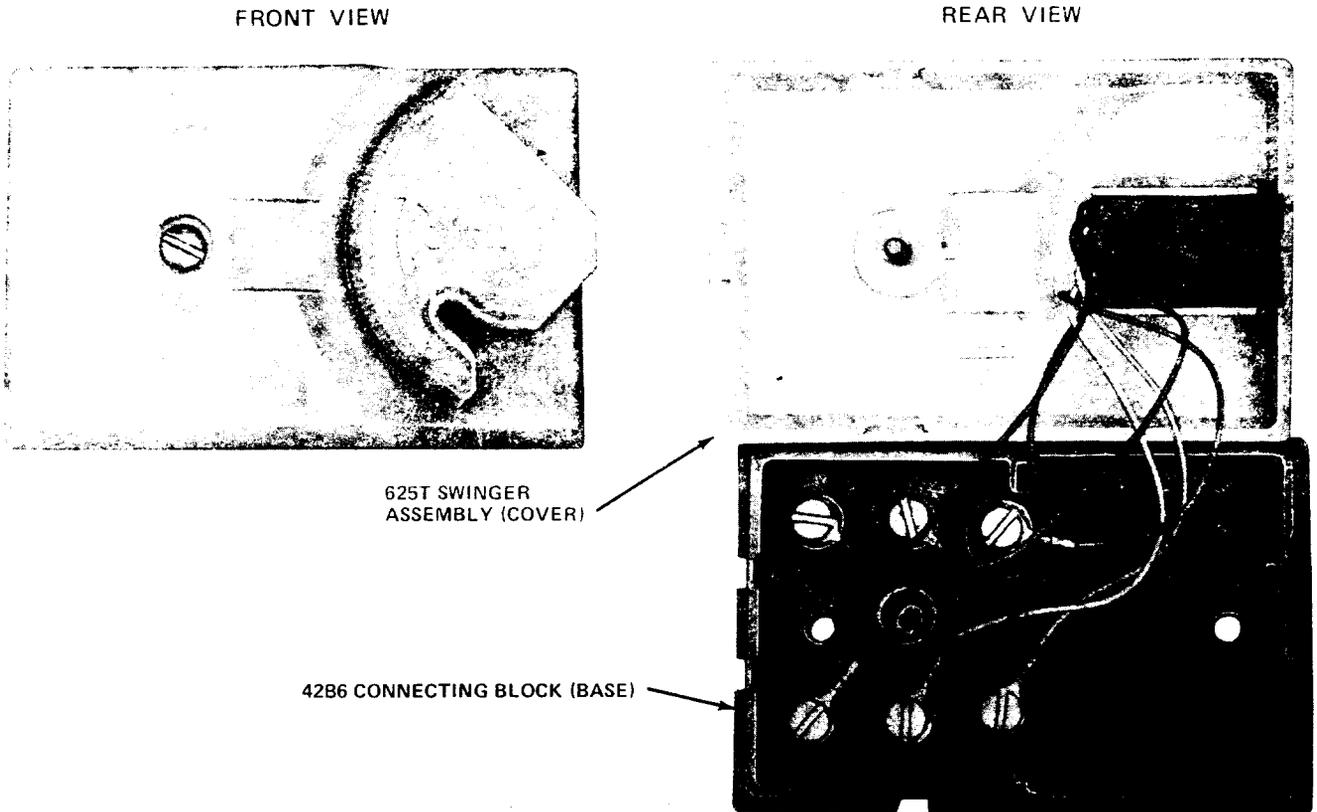

Fig. 12—625S6 Connecting Block
J. 625S6 Connecting Block (Fig. 12)
2.12 The 625S6 connecting block (Fig. 12) consists of a 42B6 connecting block (base), 625T swinger assembly (cover), and jack. It is intended for surface mounting and replaces the 74D (MD) connecting block. The spade-tipped jack leads provide the termination to the connecting block screw terminals. It is available in light olive gray (-49) and ivory (-50).
3.11 625S6 Connecting Block: Mount the 42B6 connecting block (base) on a wall (preferred) or a baseboard. Terminate station wire and dress the 625T6 swinger assembly (cover) jack leads as shown in Fig. 12.